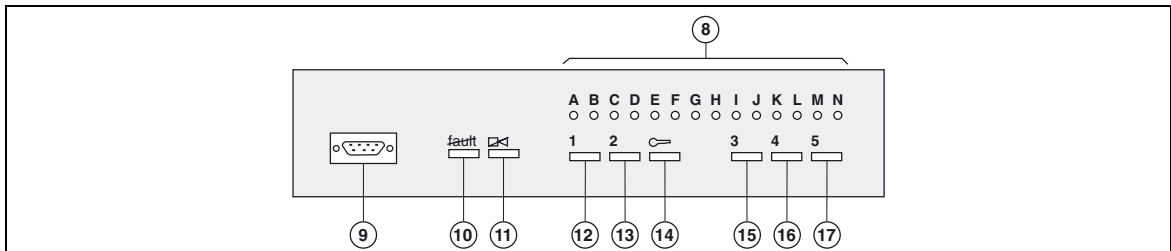

Fig. 24
- special control buttons (see figure 24).